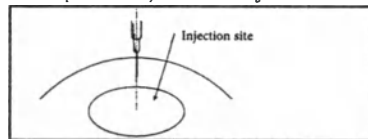

FIGURE 10
- Insert a new, sterile 21-gauge (or smaller) standard 12° bevel hypodermic needle into injection site. Ideally, the needle should enter perpendicular to the top of the injection site as shown in Figure 10. DO NOT penetrate the injection site at an angle.